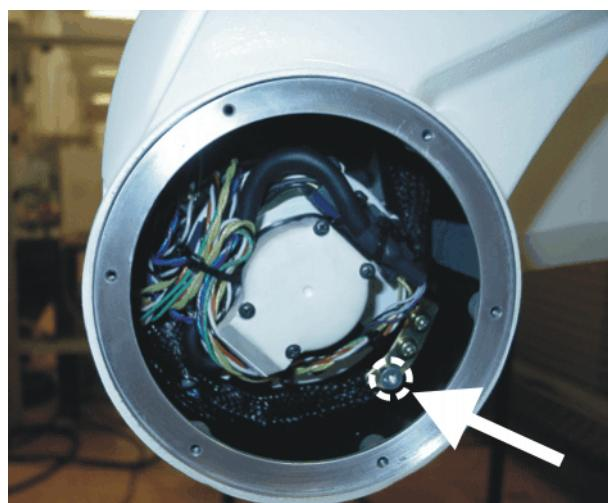

Fig. 11-29: Screw on A3
1. Remove the round motor cover on A3. Remove the screw shown (3 mm Allen key). (>>> Fig. 11-29)